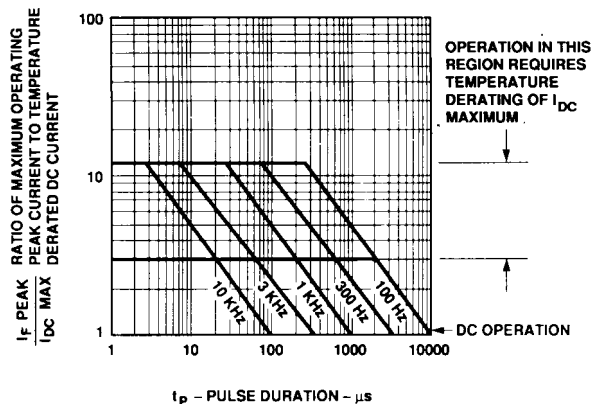

Figure 9. Maximum Tolerable Peak Current vs. Pulse Duration - Green.
7. See Figure 9 to establish pulsed conditions.